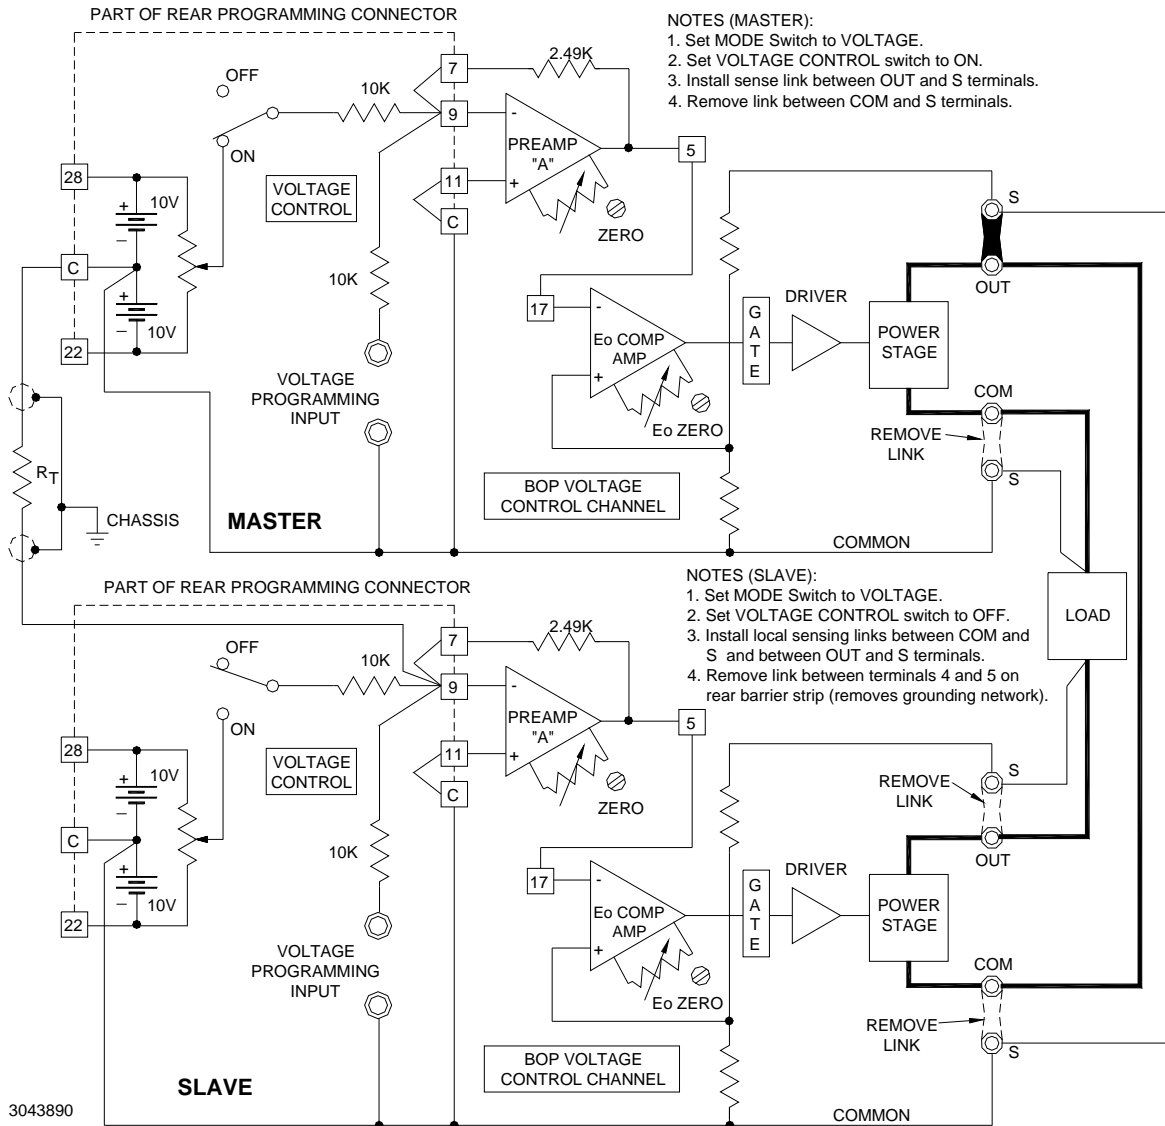

FIGURE 3-24. SERIES CONNECTION (MASTER/SLAVE) OF TWO BOP POWER SUPPLIES, WITH REMOTE ERROR SENSING AT THE COMMON LOAD
Two or more BOP power supplies can be connected in series to increase output voltage. One series-connection limitation is the isolation limit of the BOP itself (500V); contact Kepco if more than three units in series are required. Figure 3-24 shows a master/slave connection of two BOP power supplies.
To extend the concept of series connection to more than two BOP units, refer to FIG. 3-24. The BOP unit now designated the SLAVE becomes the new MASTER for the next BOP unit to be added and so on, up to the desired number of BOP's in series. Simply place the BOP outputs in series and connect a further coupling resistor (R_T) from the present SLAVE, terminal [C] to the
1. Connect the BOP supplies as shown in Figure 3-24. Set the MODE switches and the VOLTAGE CONTROL switches as directed in the set-up diagram, Figure 3-24.
2. Turn BOP's on and begin operation. The system as shown in Figure 3-24 operates in Voltage Mode, since the Master MODE switch is in VOLTAGE position. For operation in Current Mode, transfer the Master MODE switch to CURRENT.